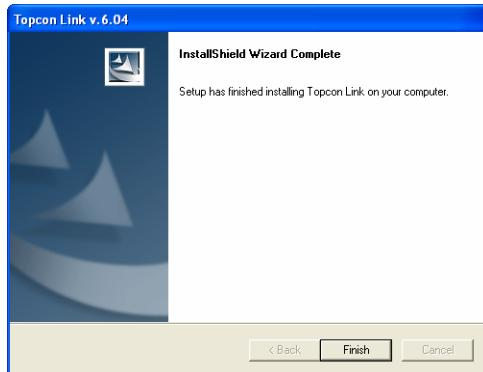

Figure 1-3. Installation Complete
7. Click **Finish** to exit the installation (Figure 1-3).